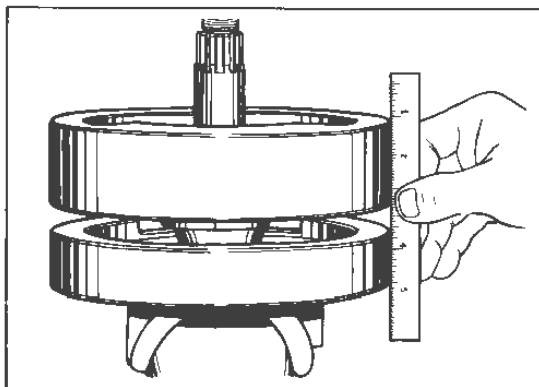

Figure 3-43. Squaring Flywheel Faces
2. Position right flywheel assembly in vise, crank pin up. Wipe crank pin taper clean. Slip bearings and connecting rods over crank pin with forked rod to rear cylinder. Wipe crank pin hole in left flywheel clean and dry. Install left flywheel and tighten nut lightly. Hold steel straightedge along outer face of wheel rims at 90 degrees from crank pin as shown in Figure 3-43. Tap outer rim of top wheel until wheels are concentric. Tighten nut, recheck with straightedge at frequent intervals. Use soft metal hammer to re-align wheels. To prevent flywheel assembly from turning in vise while tightening nut, insert a rod 5 in. long and about 1/2 in. in diameter through holes in flywheels and between vise jaws so that rod bears against some part of the vise.